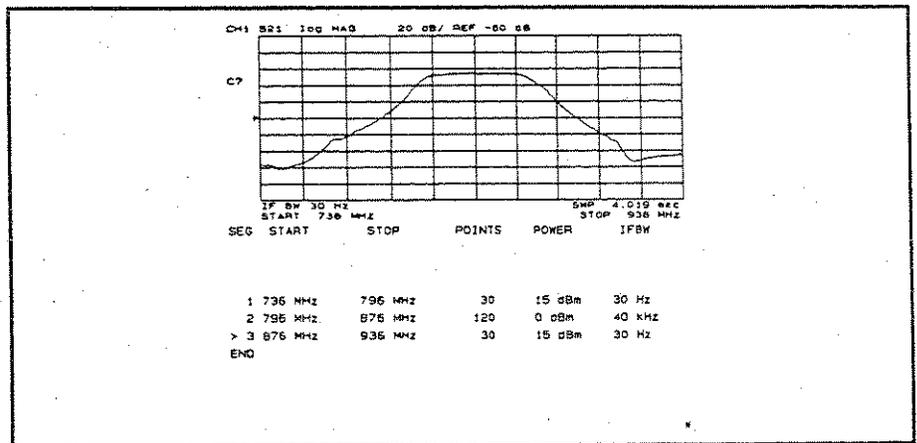

Figure 4-19. Dynamic Range Enhancement
Figure 4-19 shows the sweep list modified from the list of the previous example to improve dynamic range. Segments 1 and 2 have a narrow IF bandwidth and a higher power level for the stopband of the filter. Segment 3 has a wide IF bandwidth and lower power level for passband.
4. To modify segments 2 and 3, see Figure 4-19 for the values and modify them in a manner similar to steps 2 and 3.